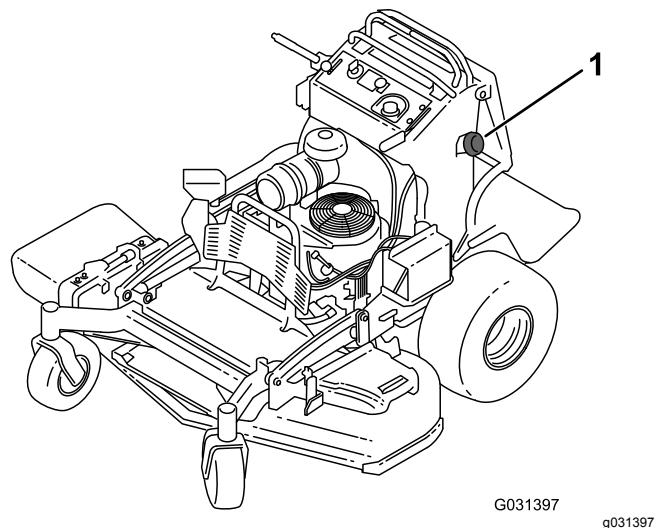

Figure 44
3. Clean around the fuel cap to prevent debris from getting into the fuel tank (Figure 44).
6. Using the siphon pump, drain the fuel into a clean gas can (Figure 44).